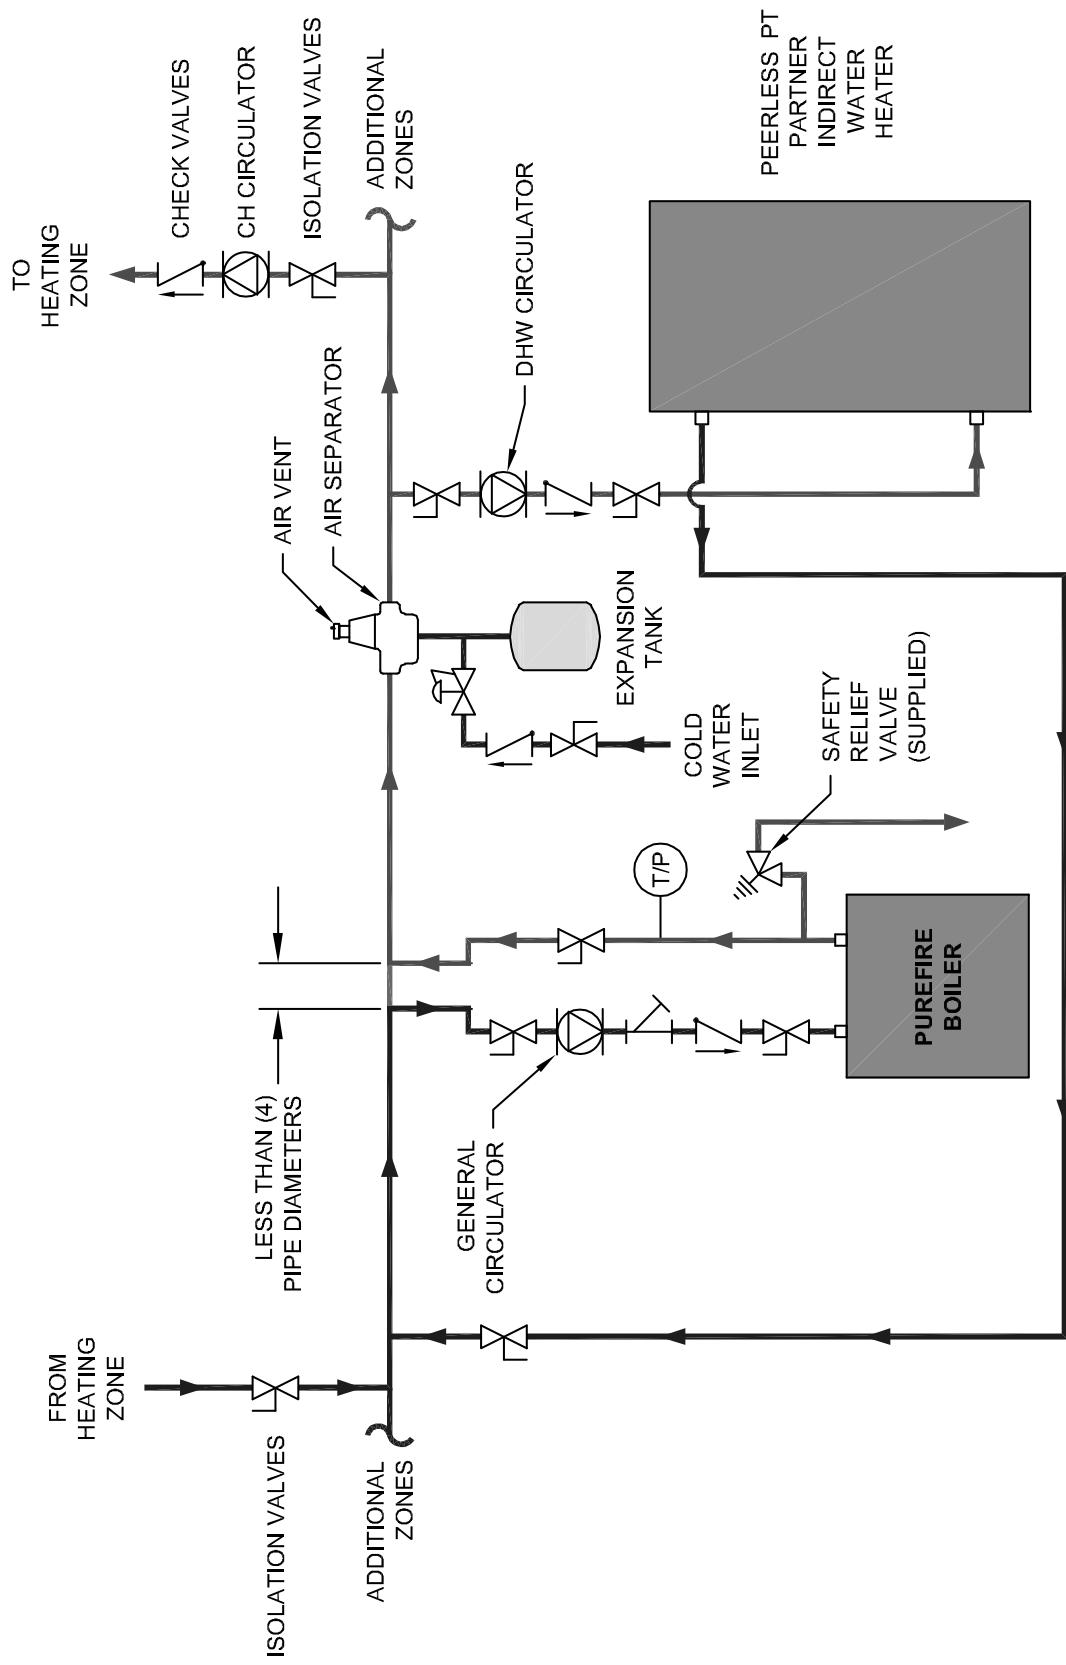

Figure 4.5: Recommended Piping - One Boiler, Primary/Secondary with Two Zones (Zone Circulator)
1. Figure 4.5 shows a single boiler with multiple heating zones. In this case, the DHW zone is piped in parallel to the heating zones on the primary loop.